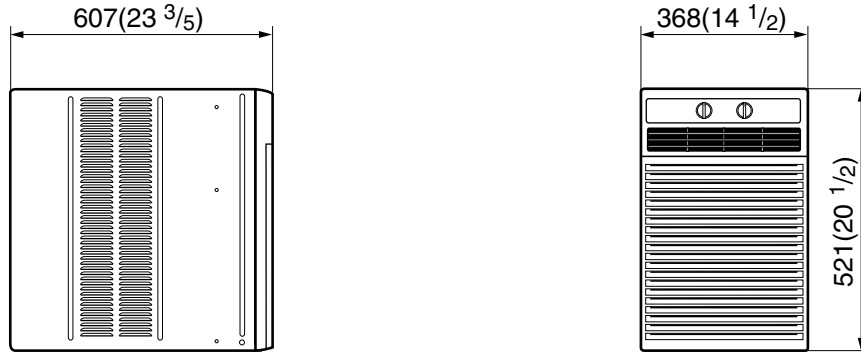

**Figure 30**
14. If this is a casement window installation, proceed to Casement Window Installation. If not, stuff the Foam Seal Strip between the vertical sash and the window glass. (See Figure 30)
15. Attach the Window Locking Bracket with a Type B screw. (See Figure 30)